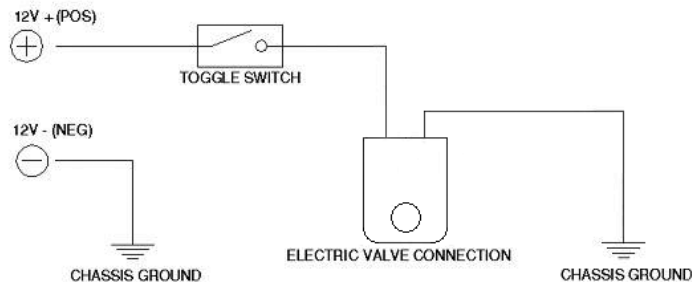

FIG. 4 - STANDARD ELECTRIC VALVE DIAGRAM
- 3A. To install a **Standard Electric Valve** run 16-gauge multi-strand wire from the ignition lead to one side of the toggle switch. From the other side of the toggle switch, run a wire to where the electric valve solenoid is positioned. Attach this power lead to either of the leads on the electric valve. Run the other lead on the electric valve to a chassis ground. **SEE FIGURE 4.**